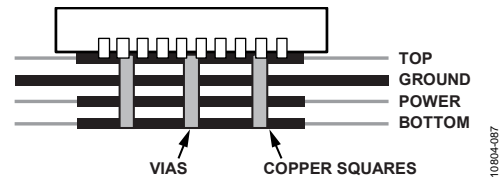

Figure 95. Exposed Pad Layout Example, Side View (Not to Scale)
- A copper layer equal in size to the exposed pad should be on all layers of the board, from top to bottom, and should connect somewhere to a dedicated copper board layer (see Figure 95).